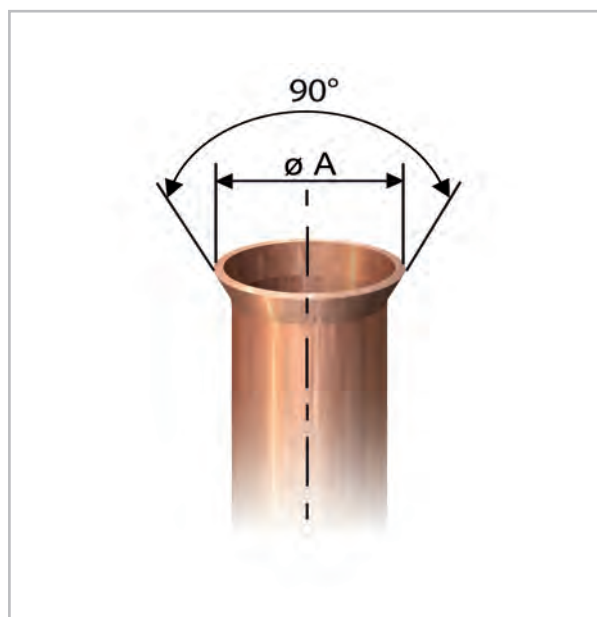

Fig. 33: Correct flange shape
9. ➤ Verify that the shape of the flange is correct (Fig. 33).